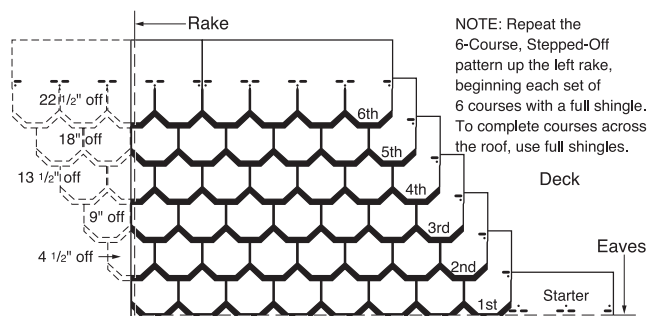

Figure 17-15: Four-and One-Half Off, Six Up (Carriage House).
2. Locate fasteners in starter strip about $1\frac{1}{2}$ " up from the bottom edge, so they are centered under the first-course tabs. Continue with full 10" by 36" lengths along the eaves (Figure 17-15).